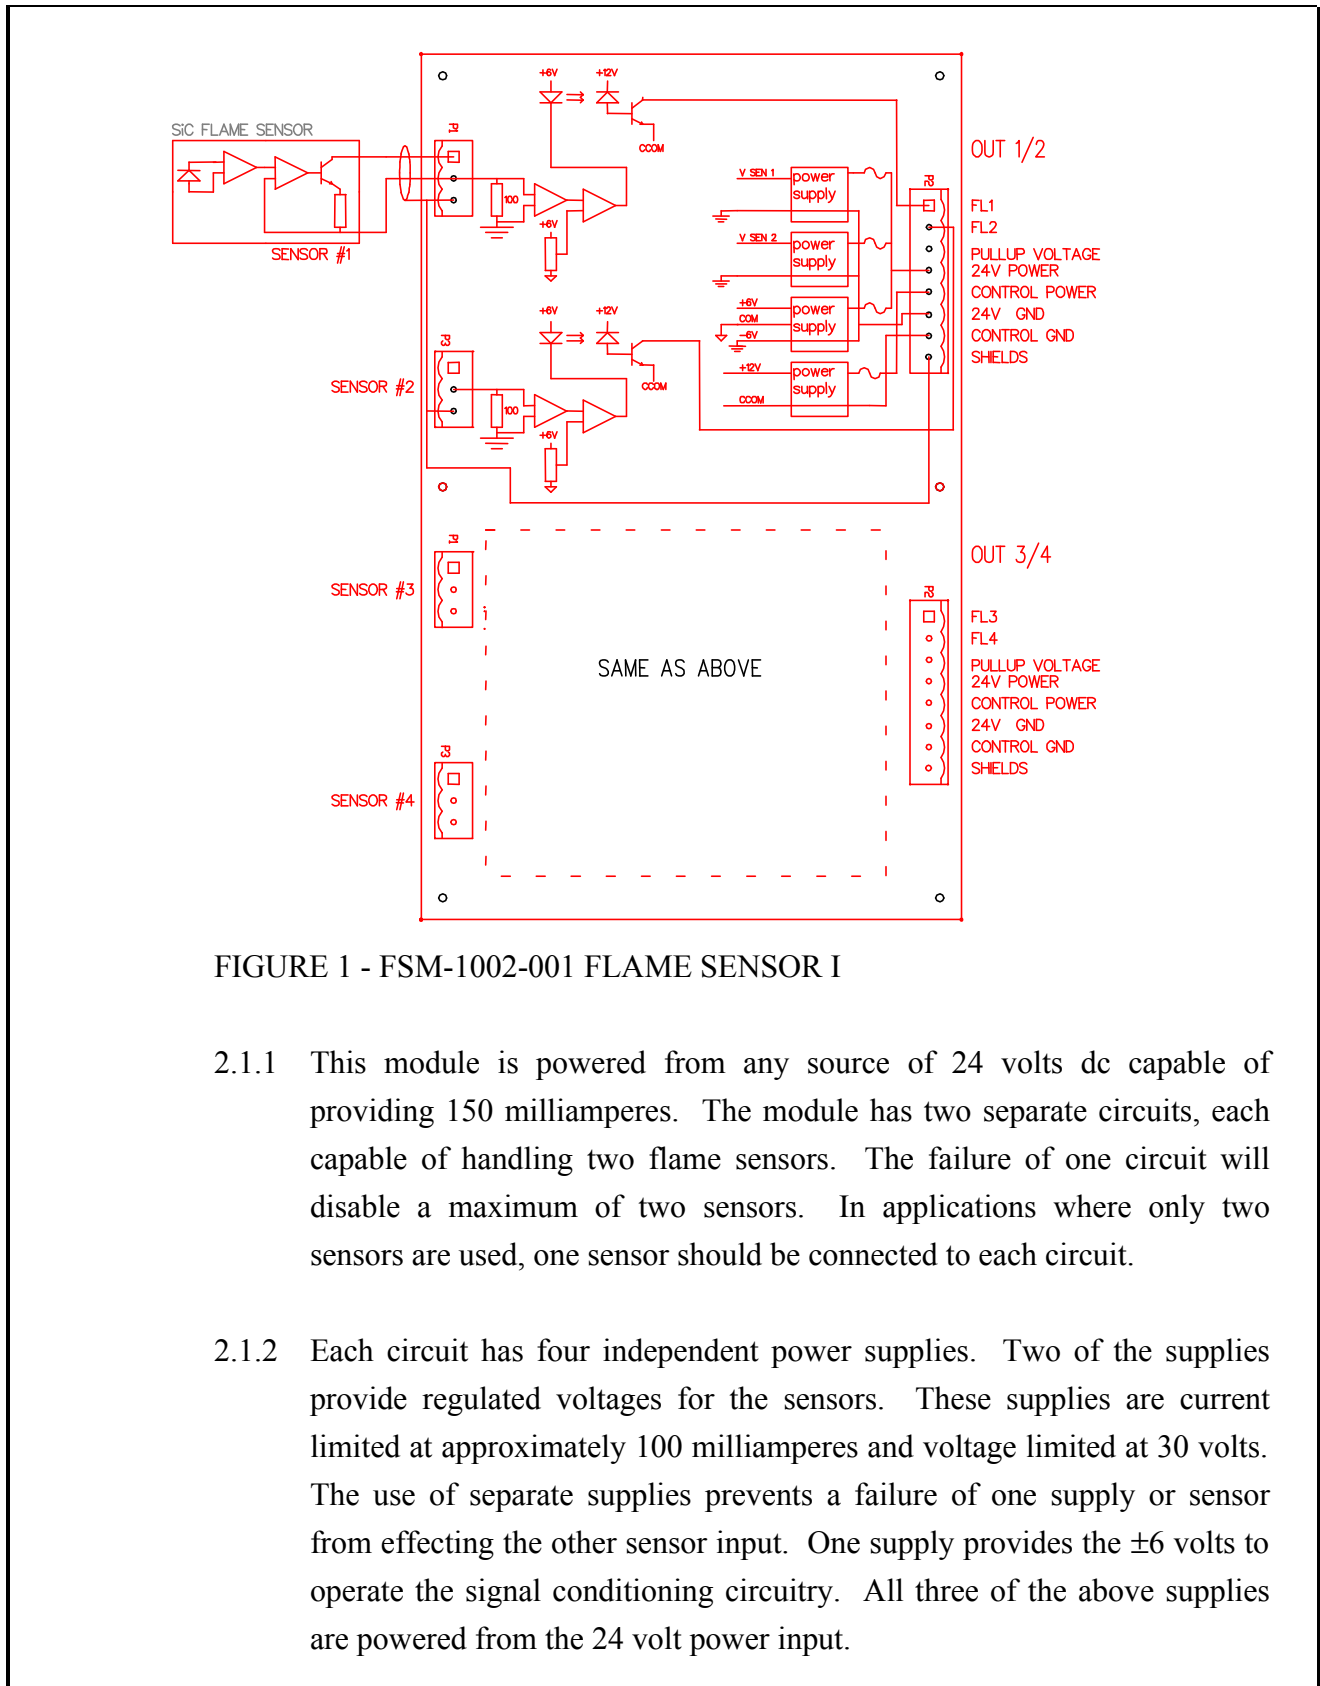

FIGURE 1 - FSM-1002-001 FLAME SENSOR I
The FSM-1002-001 Interface Module provides an open collector to ground output for use with controllers accepting a logic input. This model will operate with all GE MARK I, II and IV controllers. Figure 1 is a block diagram of this interface module.
2.3.1 Remove the power to the module by disconnecting the output connector or removing the +24 volt power wire from the controller. Plug in the sensor cables to the appropriate input connector. Disconnect the sensor cable from the sensors and unscrew them from the turbine. Plug the sensor cables back in to each of the sensors. Restore the power to the interface module and the sensors. Check the appropriate output terminal for the output for each of the sensors. The outputs are referenced to “CONTROL COMMON”, terminal 7 of the output connector (See figure 1.). The sensors are sensitive to light, and may have some reading, depending on the ambient light level. Test each sensor by covering the port to see zero flame intensity signal, then use a flashlight or flame to see a positive reading. With no light the reading should be greater than 3 volts, while with a good flashlight the reading should be less than 0.5 volts. If a sensor is outside these rough check limits see Section 4.0.